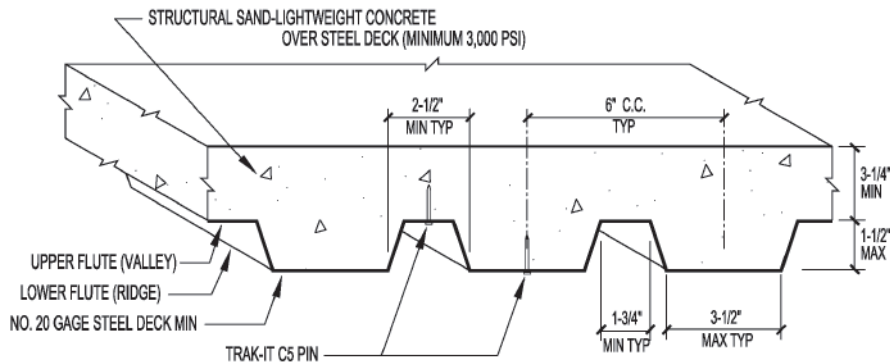

Figure 1: Fastener installation location in 1-1/2 - inch deep composite deck.
- The steel deck must have a minimum base material thickness of 0.034 inch, minimum yield strength, F_y , of 33ksi, and conform to the profile shown in Figure 1. Concrete fill must be at least 3-1/4 inches above the top flutes.